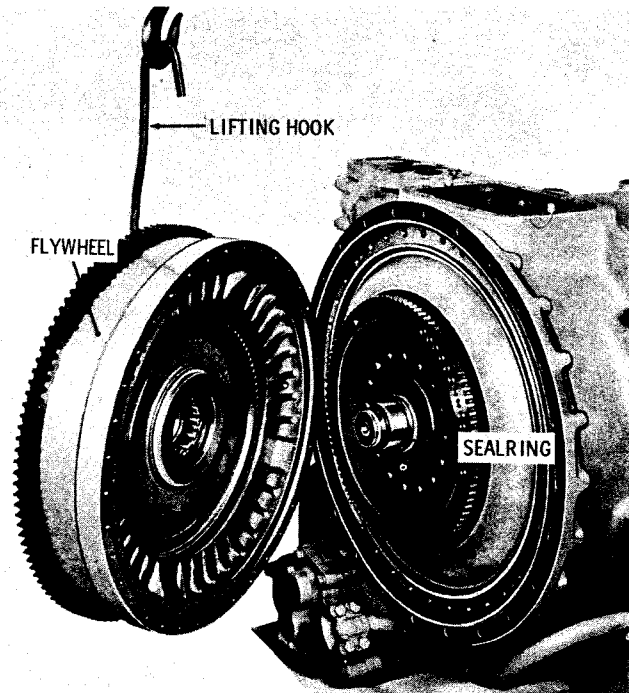

Fig. 7-90. Installing flywheel assembly (direct mount, lockup models) S1563
(3) On models having a lockup clutch, install the torque converter turbine and lockup clutch back plate and clutch plate as outlined in k(5) through (8), above.
(4) On models with a lockup clutch, install the lockup clutch piston and related components into the flywheel as outlined in k(9), (10) and (11), above.
(5) Using the flywheel hook, shown in figure 4-1, install the flywheel with lockup clutch components onto the transmission (fig. 7-90). Refer to k(12), (13) and (14) for alignment of components during installation.